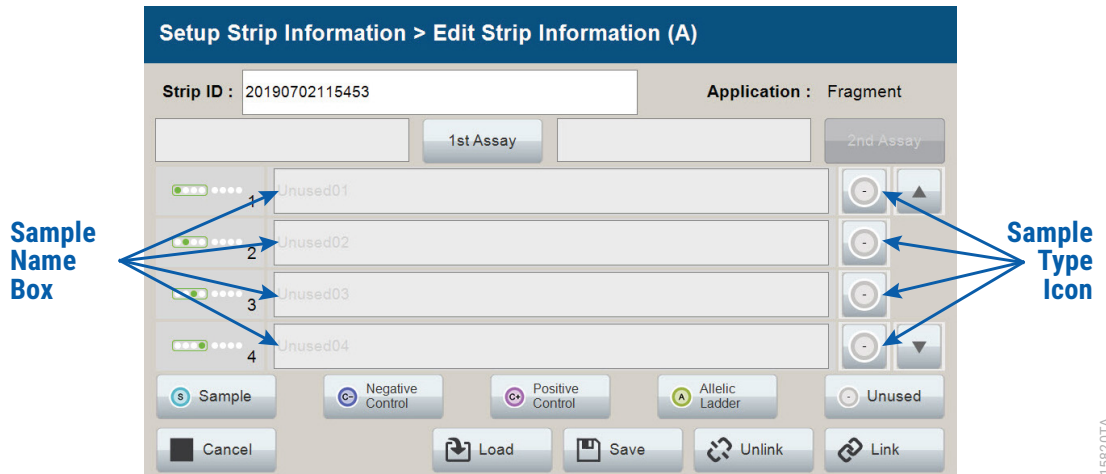

Figure 16. 'Edit Strip Information' screen.
2. Select a lane icon (A, B, C, or D) to enter information for that 8-well strip tube. This opens the 'Edit Strip Information' screen for that lane (Figure 16). This screen displays fields for defining the Strip ID, run assay, sample name and sample type for that lane. Each well in the strip is represented along the left side of the screen. The first injection set of the strip (Wells 1–4) is displayed on the screen. You can use the arrows on the right side of the screen to scroll to the second injection set (Wells 5–8).